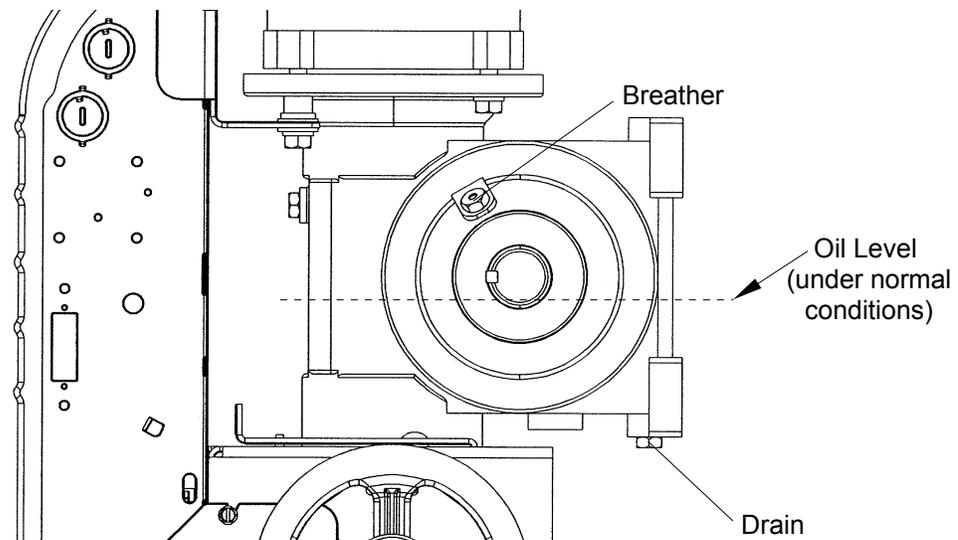

Figure 42 - Gear Reducer Breather
1. Unfasten and remove the breather, refer to Figure 42.